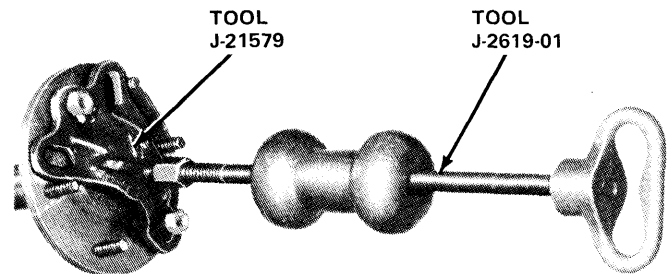

Fig. 10-23 Removing Flanged Axle Shaft
(1) Raise and support vehicle and remove wheels.
(2) Remove brake drum locknuts (spring-type) and remove drum.
(3) Remove axle shaft flange cup plug by piercing center with sharp tool and prying out.
(4) Remove nuts attaching support plate and retainer to axle tube flange using access hole in axle shaft flange.
(5) Assemble Adapter Tool J-21579 and Slide Hammer J-2619, install tools on axle shaft flange, and remove axle shaft (fig. 10-23).
(6) Remove axle shaft oil seal from axle housing tube.
(7) Wipe seal bore in axle housing tube clean and install oil seal using Driver J-25135.